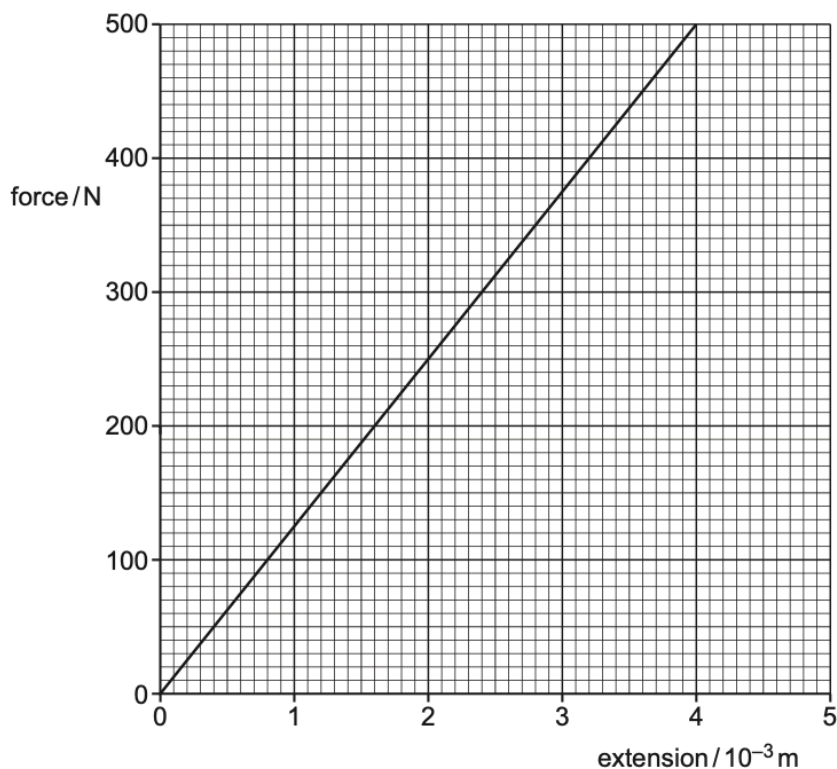

Fig. 5.1
- (b) A wire of unstretched length 0.81 m is made of a metal with Young modulus 95 GPa. The wire obeys Hooke's law and has a constant cross-sectional area. Fig. 5.1 shows the force–extension graph for the wire.